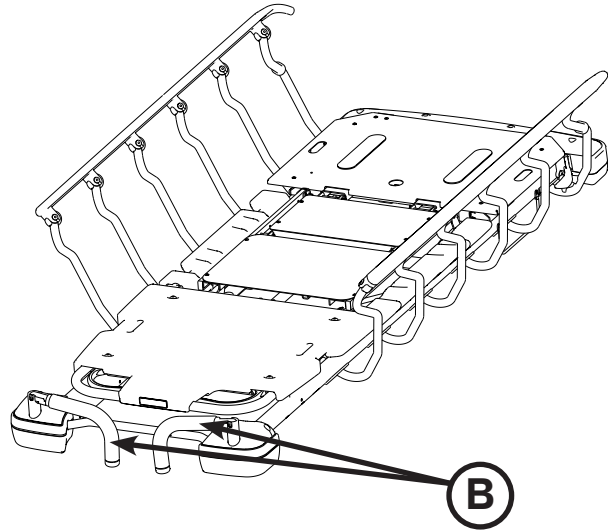

Figure 18: Head End Push Handles Stored
To store the push handles, lift the handles (B) up and pivot them down to store in the handle rests (Figure 18).